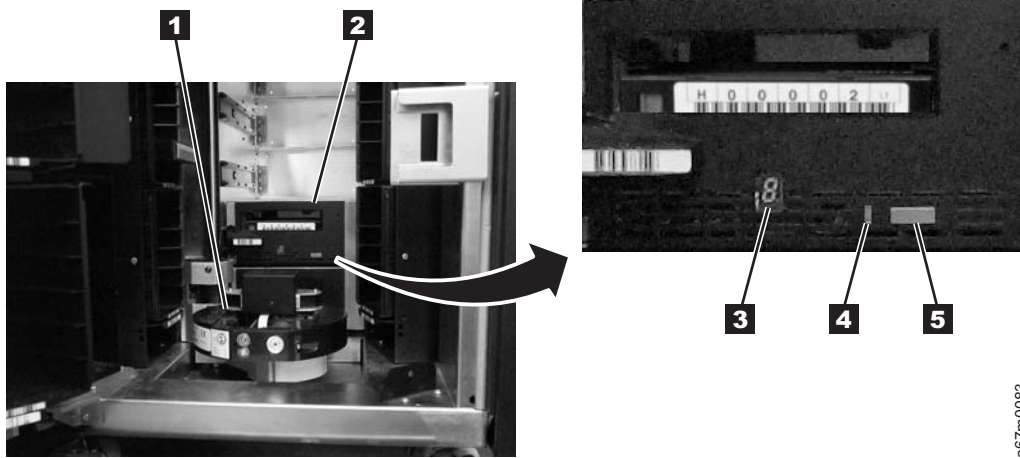

Figure B-1. Resetting the Tape Drive
3. Locate the drive that contains the stuck tape cartridge. If the picker (**1** in Figure B-1 on page B-2) is in front of the drive **2**, gently lift and hold the picker out of the way.